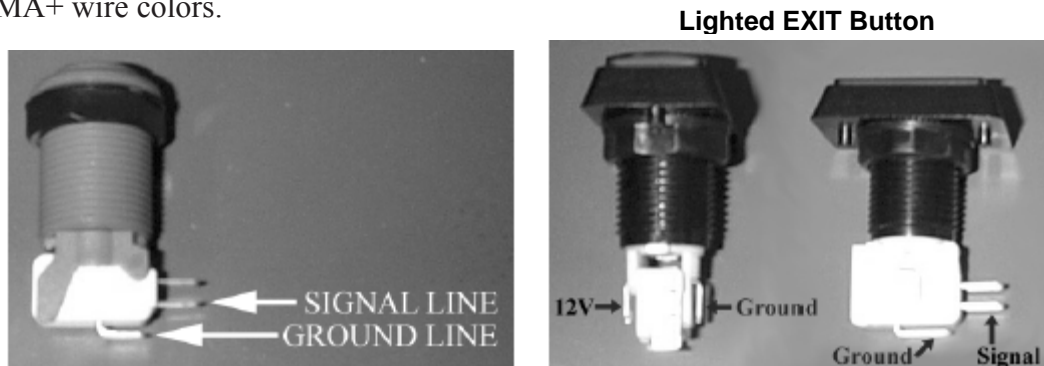

Figure 9. Button Micro Switch Wiring
2. Refer to the figure below and drill a 1" hole and two 5/32" holes for the Exit button, as shown. See Figure 9 on page 15 for photos of the assembled buttons.
The button connectors on the Player-1 and Player-2 wire bundles have spade connectors that easily connect to the joystick and the button micro switches (see Figure 3 and Figure 9). Refer to Table 2 for the JAMMA+ wire colors.
1. Refer to Figure 9 and Figure 10 when connecting the EXIT button. Locate the EXIT wire bundle. The signal line is **blue**. The 12-volt line used to light the button is **orange**, and the ground line is **black**. Connect the spades to the appropriate connectors.